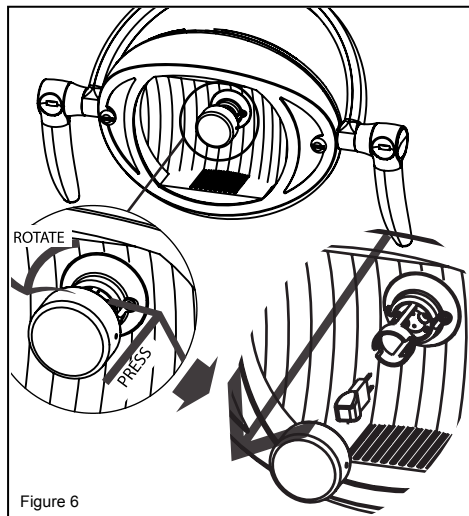

Figure 6
3. Press the front metal bayonet cap, rotate it anti-clockwise and take it out. (fig.6)